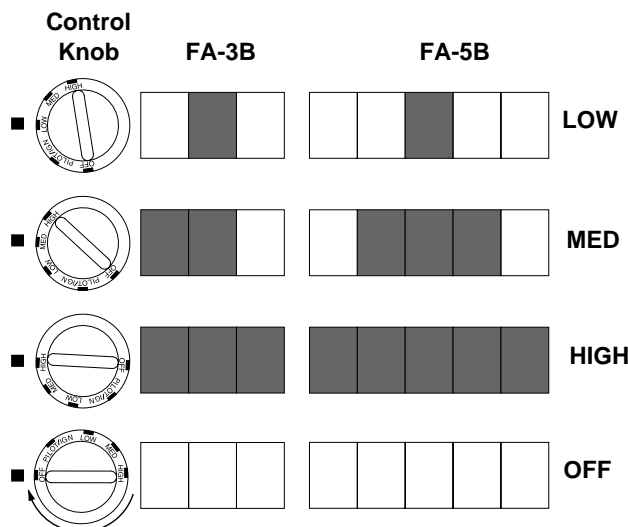

Figure 19 - Burner Patterns
5. Press in and turn control knob counterclockwise to PILOT/IGN position. Press in control knob for five (5) seconds (see Figure 19).
Slightly press in control knob and turn counterclockwise to the LOW, MEDIUM, or HIGH positions (see Figure 19).